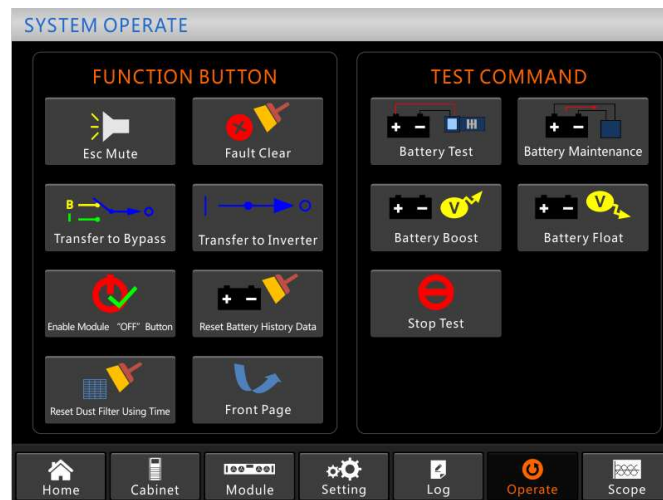

Figure 4-3 Battery maintenance
- 1) Manual discharging test. Enter the “Operate” menu, as is shown in Figure 4-3 and touch the